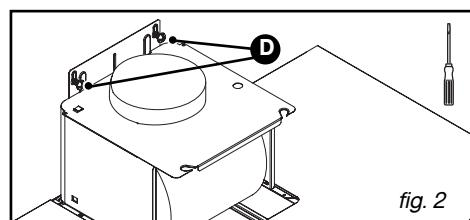

fig. 2
- Hang the suction hood on the two screws (fig. 2).
- Mount the back-flow valve near the motor outlet (fig. 2). This back-flow valve makes it possible to block the entry of air from the outside.